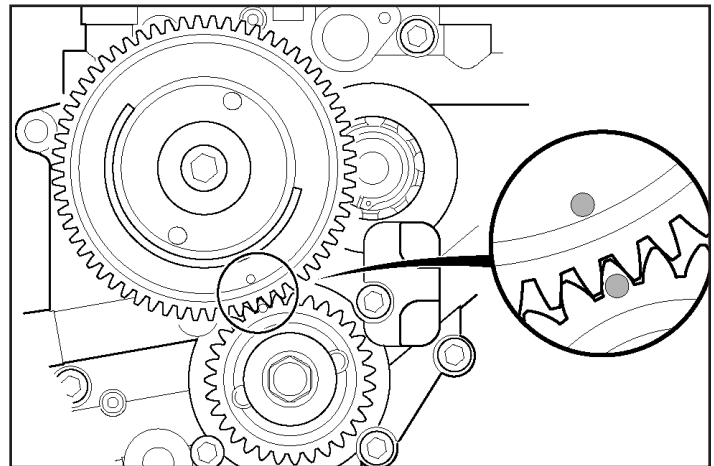

Figure 7
27. Turn rear wheel to rotate engine so that when the crankshaft pinion gear is installed, the timing mark will line up with the timing mark on the rear cam drive gear. See **Figure 7**.